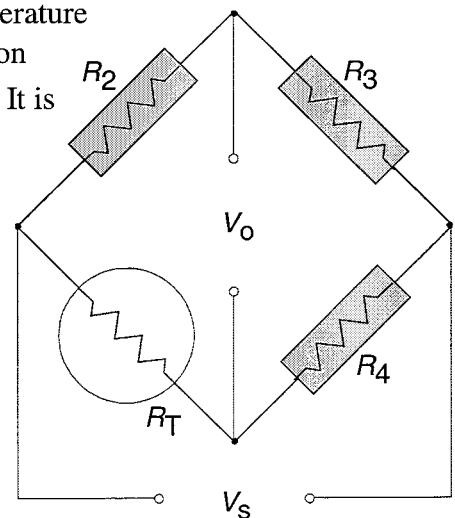

Figure 4
12. A platinum resistance thermometer with a resistance-temperature relationship of  $R_T = R_o(1 + \alpha T)$  is connected to a deflection bridge with a 10 V voltage supply (as shown in Figure 4). It is used for an input temperature range of 100 to 200°C.